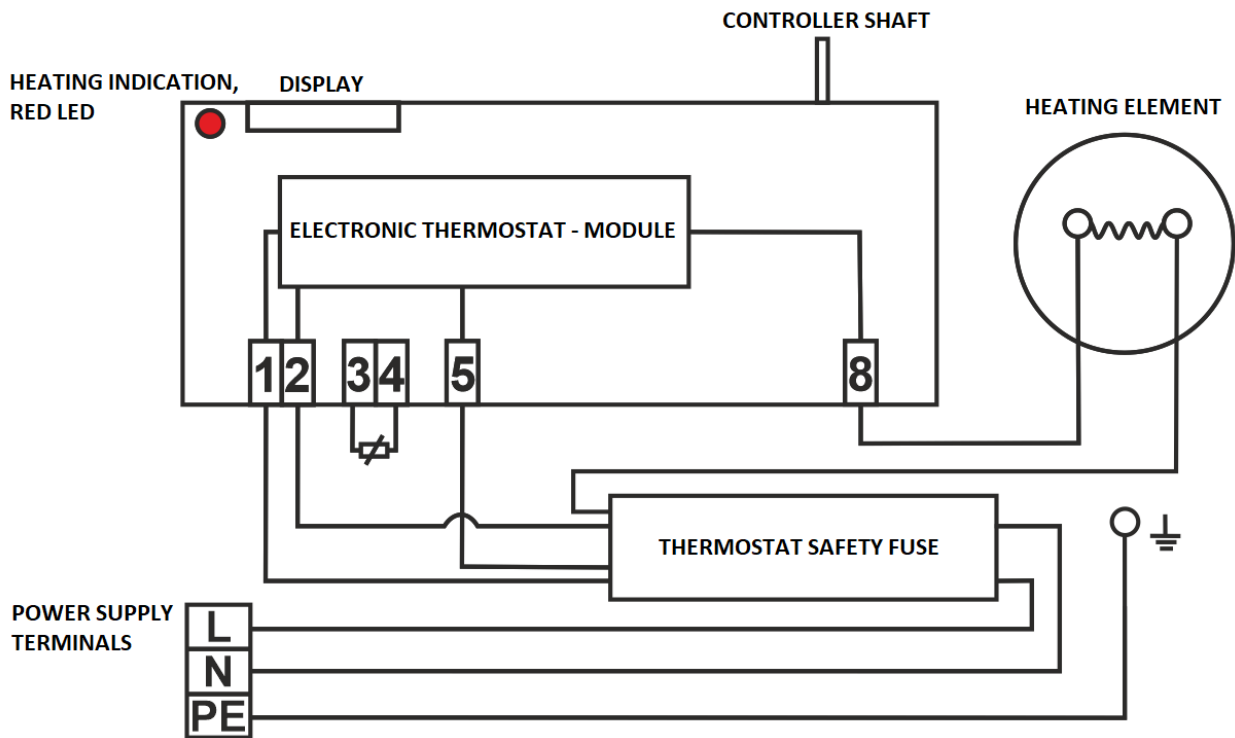

Figure 8
Perform the connection according to the scheme. Factory connection must not be changed! (Figure 8). The degree of protection of electric parts of the heater is IP 44. The power input of electric element is 2.000 W (OKHE ONE/E 50 - 120), 1.100 W (OKHE ONE/E 30).
- The wiring diagram is attached to the heater on the side of the electric installation cover (Figure 8).